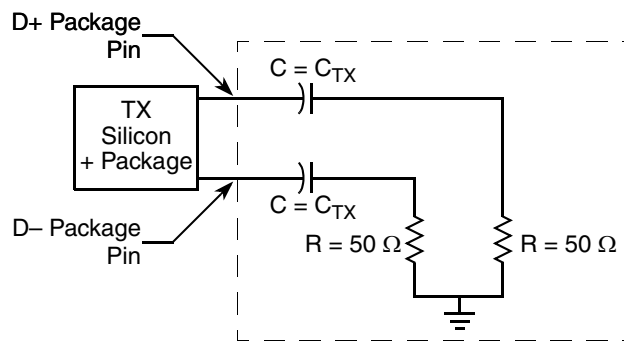

Figure 44. Test/Measurement Load
2. Specified at the measurement point into a timing and voltage test load as shown in Figure 44 and measured over any 250 consecutive Tx UIs.
2. Specified at the measurement point and measured over any 250 consecutive UIs. The test load in Figure 44 should be used as the Rx device when taking measurements. If the clocks to the Rx and Tx are not derived from the same reference clock, the Tx UI recovered from 3500 consecutive UI must be used as a reference for the eye diagram.
The AC timing and voltage parameters must be verified at the measurement point. The package pins of the device must be connected to the test/measurement load within 0.2 inches of that load, as shown in Figure 44.